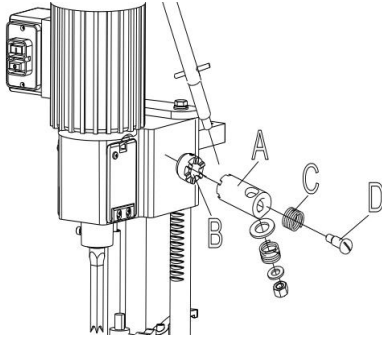

Fig. 2
1.Assemble hub of handle assembly (A) Fig. 2, to end of pinion shaft (B) and fasten handle to pinion shaft using special screw (C) and spring (D).